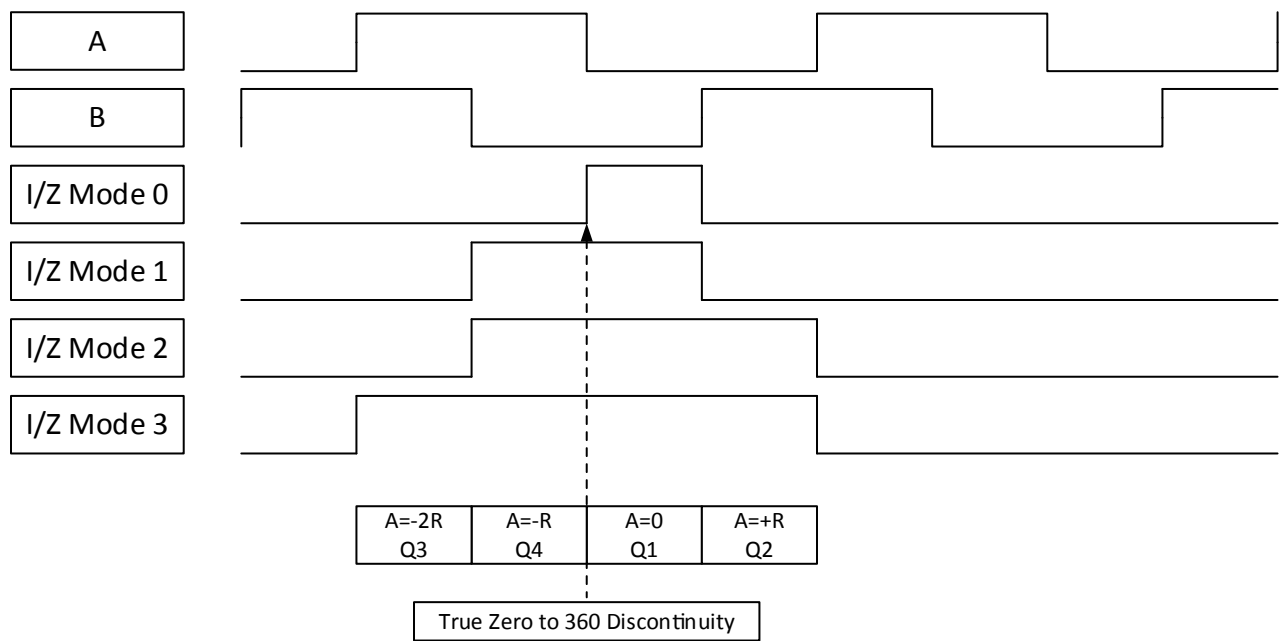

Figure 9: Index Pulse
The index pulse, I (or Z in some descriptions), marks the absolute zero (0) position of the encoder. Under rotation, this allows the receiver to synchronize to a known mechanical/magnetic position, then use the incremental A/B signals to keep track of the absolute position. To support a range of ABI receivers, the I pulse has four widths, defined in Figure 9.